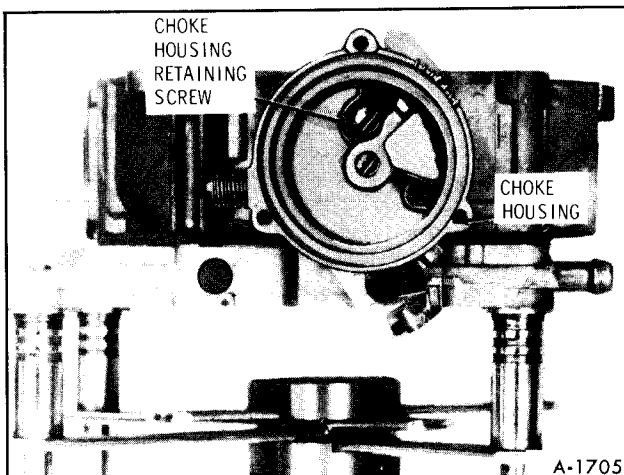

Figure 20-Choke Housing Attachment
2. Remove choke housing assembly from float bowl by removing retaining screw and washer inside the choke housing (figure 20). The complete choke assembly can be removed from the float bowl by sliding outward. Remove plastic tube seal from choke housing. Remove lower choke lever from inside float bowl cavity by inverting bowl.